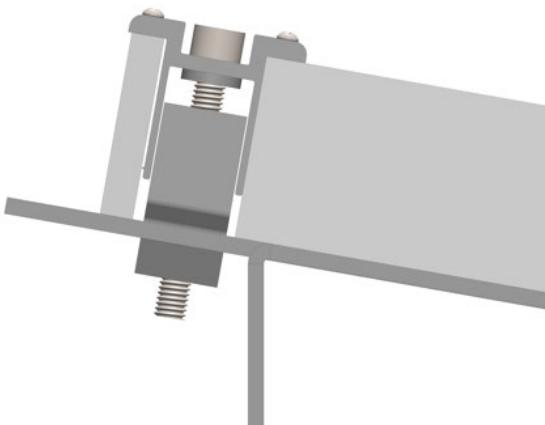

Fig. B3 – Module Fastened to HUS Support with KB konnect clamp and end block
- 3 Secure the KB Konnect end clamp to the module (see Fig. B3). The clamp may be tightened with either a standard drill or a torque wrench to the recommended torque setting - **8.3 Nm/6.1 ft-lb**.